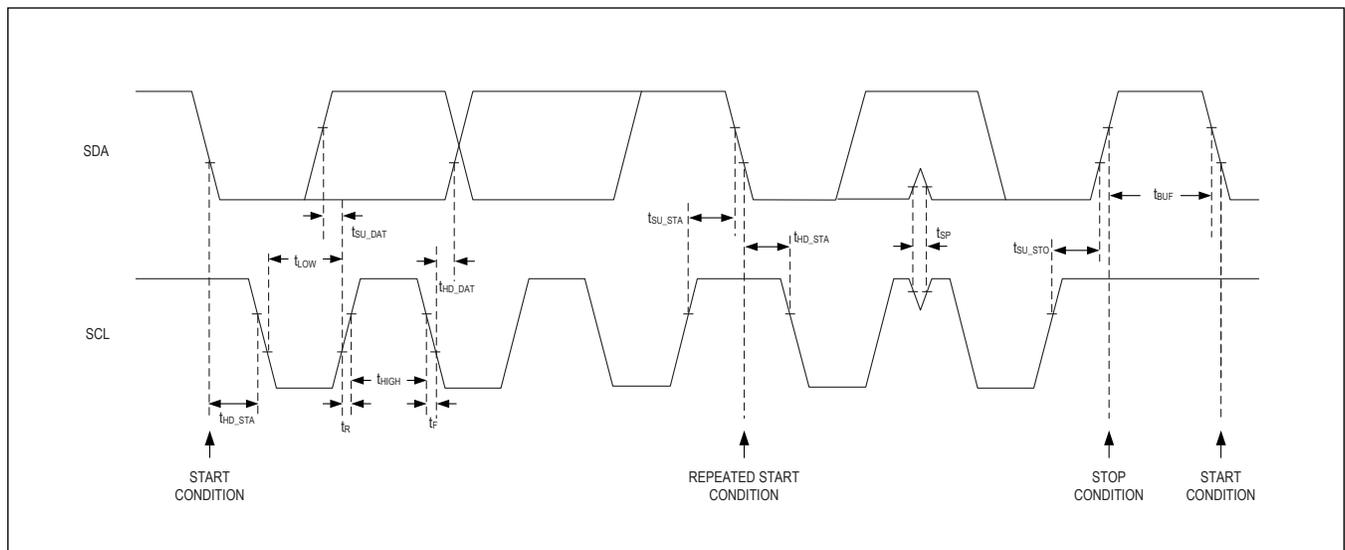

Figure 3. Detailed I2C Timing Diagram
The MAX31889 features an I2C/SMBus™ compatible, 2-wire serial interface consisting of a serial data line (SDA) and a serial clock line (SCL). SDA and SCL facilitate communication between the MAX31889 and the master at clock rates up to 400kHz. Figure 3 shows the 2-wire interface timing diagram. The master generates SCL and initiates data transfer on the bus. The master device writes data to the MAX31889 by transmitting the proper slave address followed by the register address and then the data word. Each transmit sequence is framed by a START (S) or REPEATED START (Sr) condition and a STOP (P) condition. Each word transmitted to the MAX31889 is 8 bits long and is followed by an acknowledge clock pulse. A master reading data from the MAX31889 transmits the proper slave address followed by a series of nine SCL pulses. The MAX31889 transmits data on SDA in sync with the master-generated SCL pulses. The master acknowledges receipt of each byte of data. Each read sequence is framed by a START (S) or REPEATED START (Sr) condition, a Not Acknowledge (NACK), and a STOP (P) condition. SDA operates as both an input and an open-drain output. A pullup resistor is required on SDA. SCL operates only as an input. A pullup resistor is required on SCL if there are multiple masters on the bus, or if the single master has an open-drain SCL output. Series resistors in line with SDA and SCL are optional. Series resistors can protect the digital inputs of the MAX31889 from high-voltage spikes on the bus lines, and minimize crosstalk and undershoot of the bus signals.
The detailed timing diagram of various electrical characteristics is shown in Figure 3.